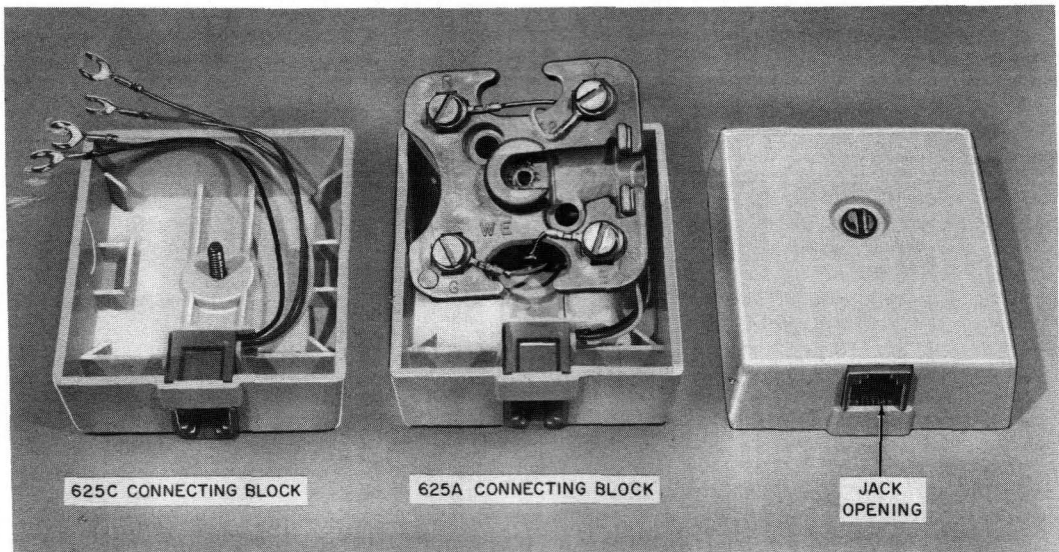

Fig. 1—625A- and 625C-Type Connecting Blocks
- Block, Connecting, 625A (Fig. 1)
2.03 The **625A** connecting block (Fig. 1) is intended for new installations and is surface mounted. It contains a 42A connecting block ♦with four screw terminals and♦ is used to terminate inside wire and spade-tipped leads from the jack in the cover. This connecting block replaces the 42A connecting block and the 549A jack. When mounting the 42A connecting block, leave at least 1/16-inch clearance between the bottom of the cover and the molding, carpet, or floor. ♦The 625A connecting block is available in olive gray (-49) and ivory (-50).♦